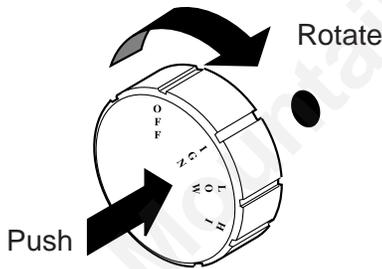

Figure 30 - IGN Position
6. From OFF position, push in gas control knob slightly and turn counterclockwise to the IGN position. See *Figure 30*. Push in and hold control knob for 5 seconds.